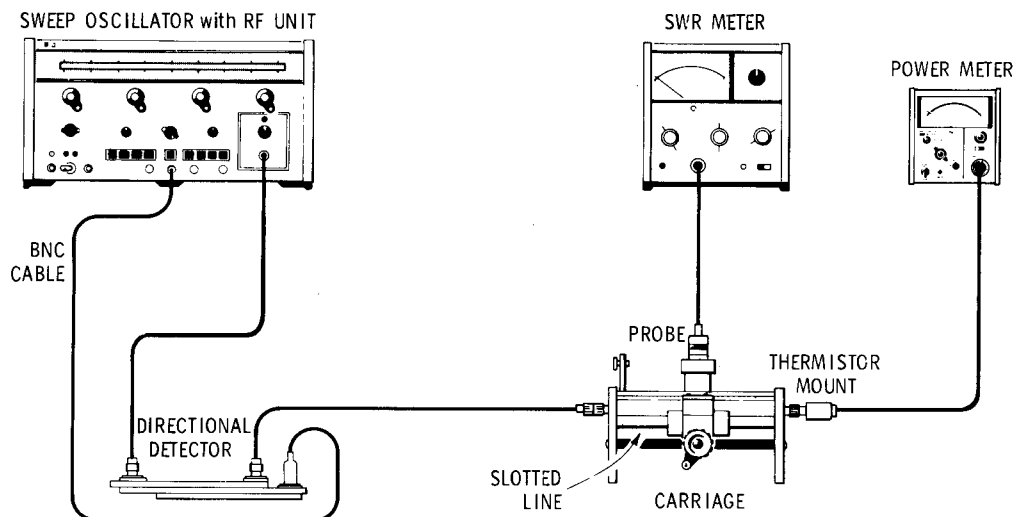

Figure 6. SWR Measurement Test, 8 GHz
- Connect the test equipment as shown in Figure 6. Make sure all connections are secured tightly.